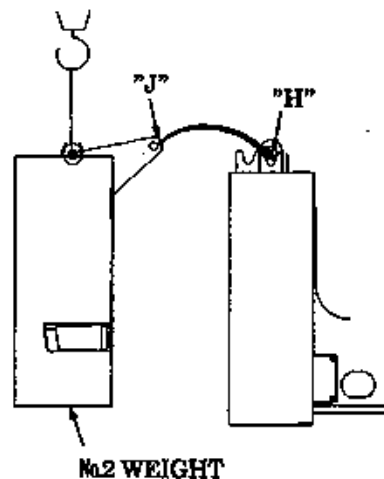

Fig 5-16A
(5) Align the portion "J" (Fig. 5-16A) of the counterweight No. 2 with the portion "H" of the counterweight No. 1, and attach the counterweight No. 2 to the back of the counterweight No. 1.